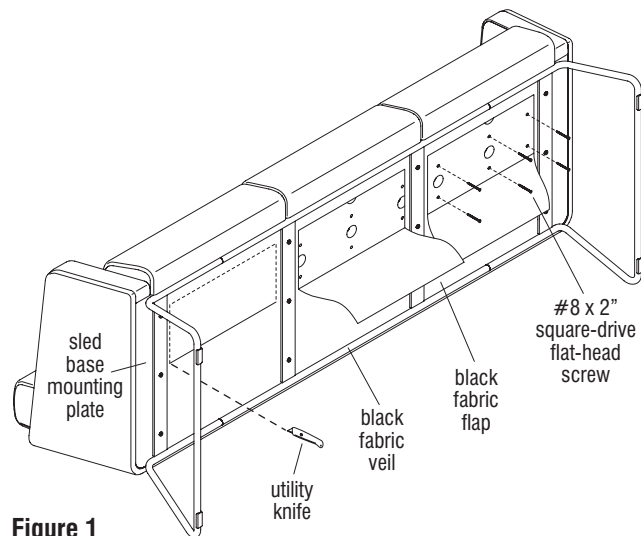

Figure 1
1. With the assistance of a second person, if needed, carefully lay the lounge unit onto it's back, or upside down on a soft, protective surface (Figure 1).
Note: If cutting the black fabric veil is not desired to gain access to the screws which secure the cushion bottoms to the seat board, an alternate method may be used. This involves removal of the sled base frame first (save the #14 x 1 1/4" Phillips pan head screws). Then using a staple pliers, remove the upholstery staples holding about half of the fabric veil at the front and allow the fabric veil to drape down similar to Figure 1. Only if using this alternative method, skip step 2 and proceed to step 3.
2. To gain access to the screws securing the affected cushion to the seat board, use a utility knife to cut three sides of a rectangle in the black fabric veil on the bottom of the lounge unit to make a flap near the affected cushion as illustrated. Let the fabric drape down so it does not interfere with removing the screws in the next step (Figure 1, Details A & B).
3. Remove the six #8 x 2" square-drive flat head screws securing the seat cushion to the lounge seating seat board (Figure 1).